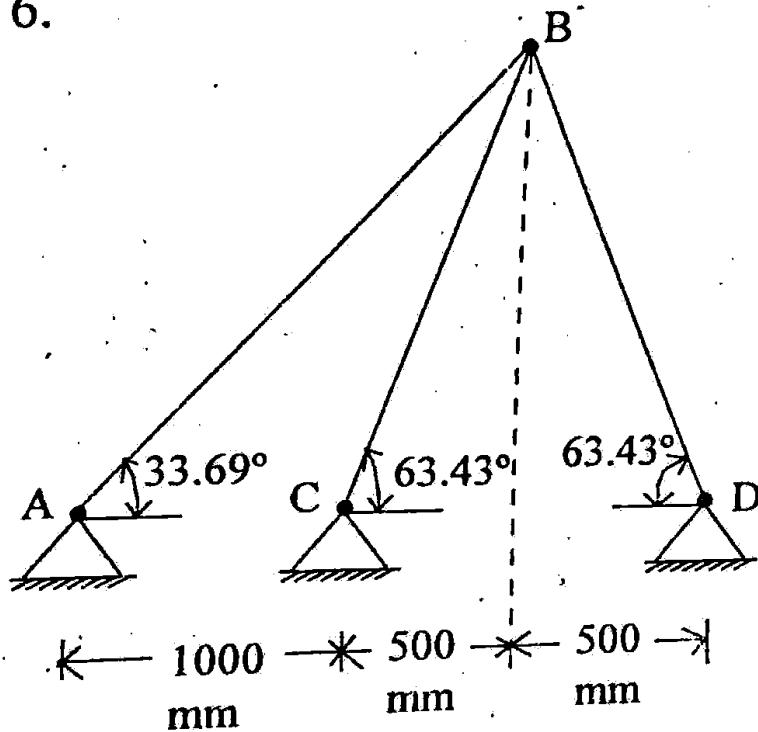

Fig. 6
6. Determine the forces in members of a truss if the member BC is long by 2 mm. Take area of cross section as  $800 \text{ mm}^2$ ,  $E = 200 \text{ kN/mm}^2$  using Direct Stiffness method. Also find out support reactions. Refer Fig. 6.